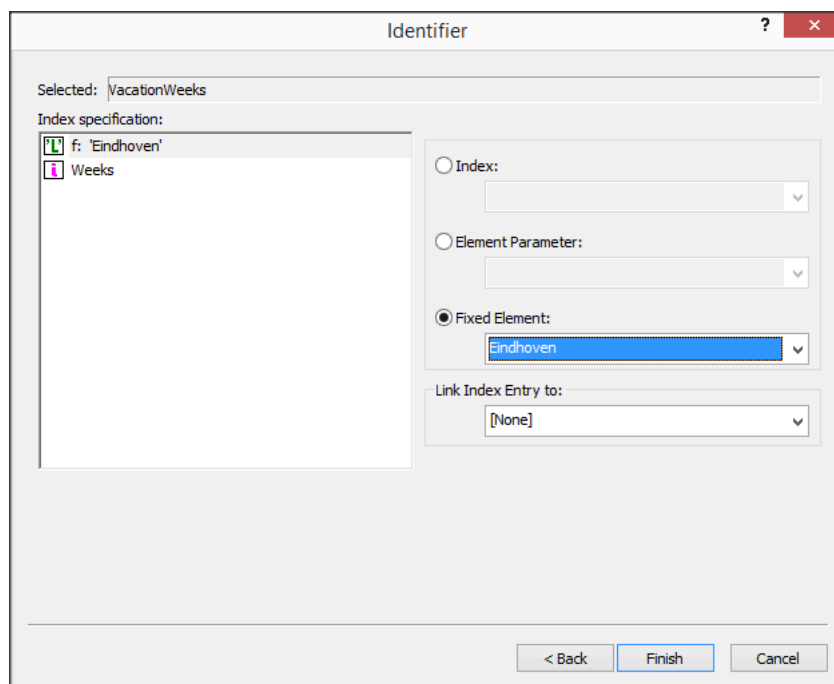

Figure 12.14: The contents of the identifier wizard box
- ▶ select 'Eindhoven' as the 'Fixed Element' of the index f as shown in Figure 12.14